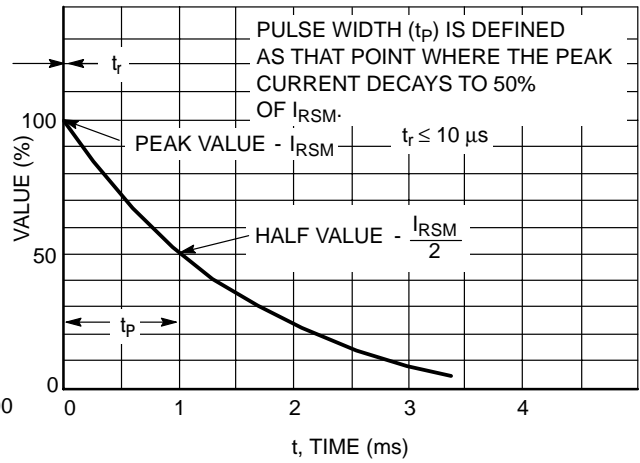
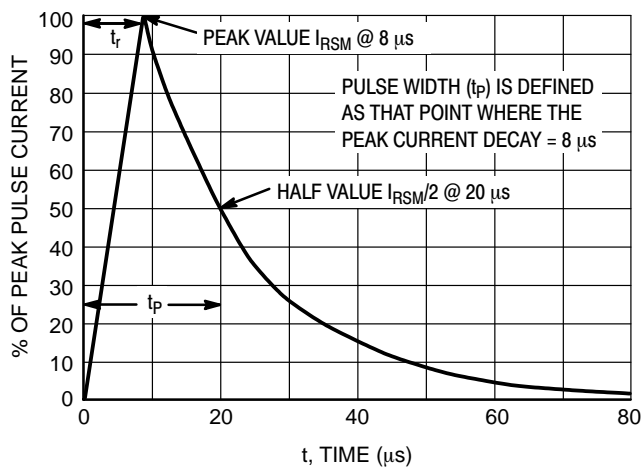

Figure 2. 10 X 1000 μs Pulse Waveform
Figure 3. 8 X 20 μs Pulse Waveform
1. Non-repetitive current pulse at $T_A = 25^\circ\text{C}$, per waveform of Figure 2.
2. Non-repetitive current pulse at $T_A = 25^\circ\text{C}$, per waveform of Figure 3.
7. Surge current waveform per Figure 2 and derate per Figure 3.